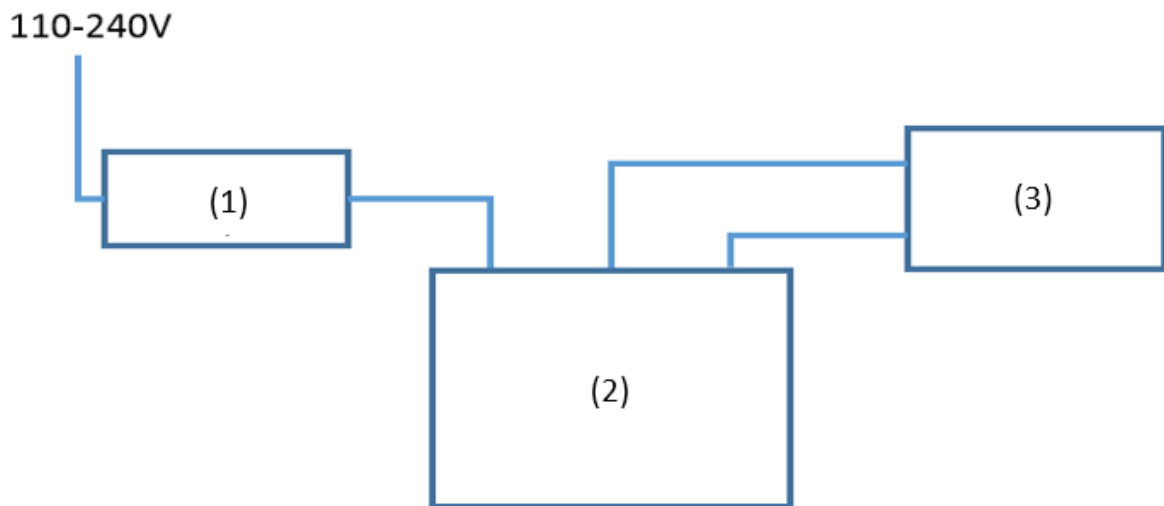

Figure 4: UHP-T LED Illuminator cable connection: (1) Power Adaptor, (2) UHPTLCC-02 LED controller, (3) UHP-T-LED head.
4. Connect the LED Control Cable and the LED Current Cable to the UHPTLCC-02 LED current controller and to the UHP-T-LED head (See Figure 4 and 5 below).